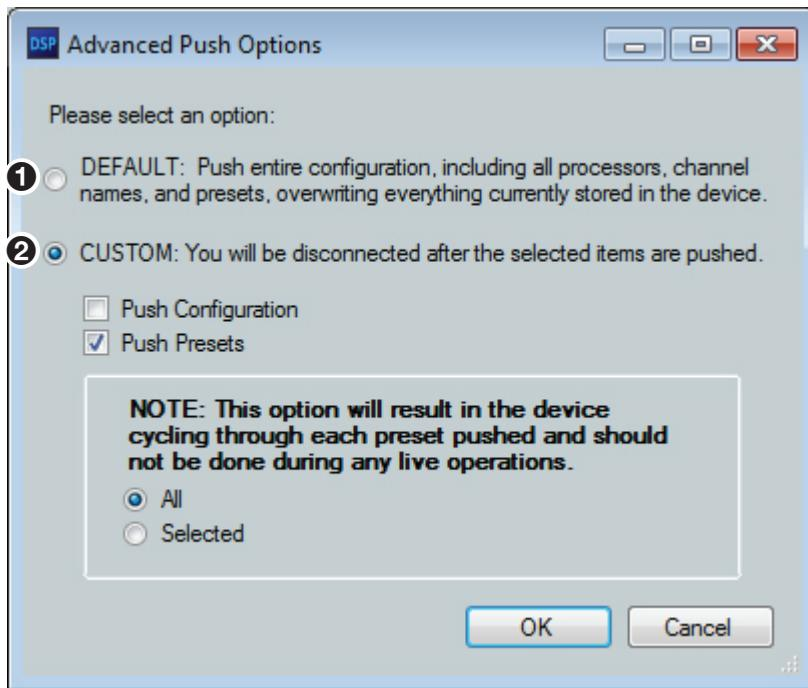

Figure 79. Advanced Push Options
- Select **Default** (see figure 79, ①) to update the device configuration with the currently open file, then skip to step 6.
- Select **Custom** (②) for additional options, then proceed to step 5.
5. If you selected **Custom**, select either or both of the **Push Configuration**, or **Push Presets** checkboxes. In the example in figure 79, **Push Configuration** is not selected and all presets will be pushed.